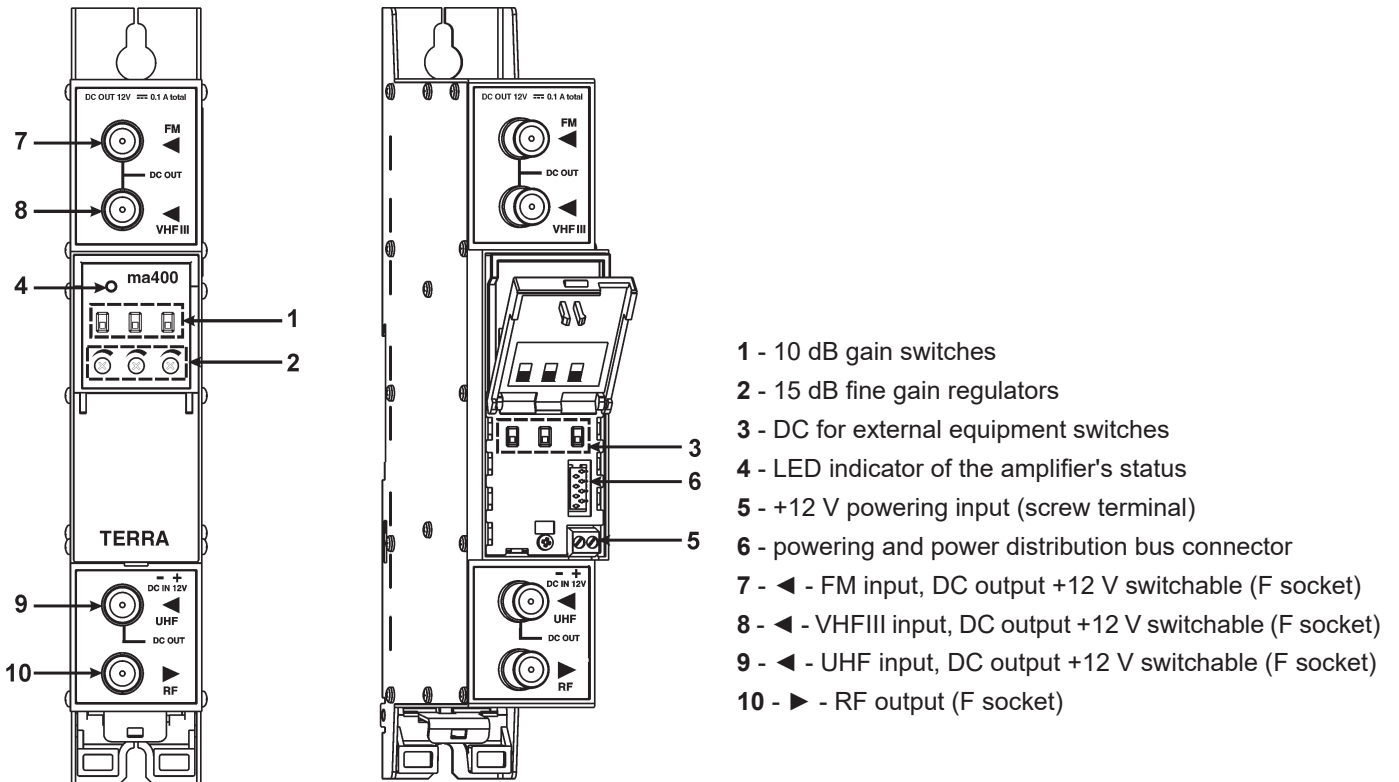

Figure 1. External view of the amplifier
Turn on the regulators clockwise with supplied plastic screw driver to increase gain for each sub-band (figure 1, pos. 2).